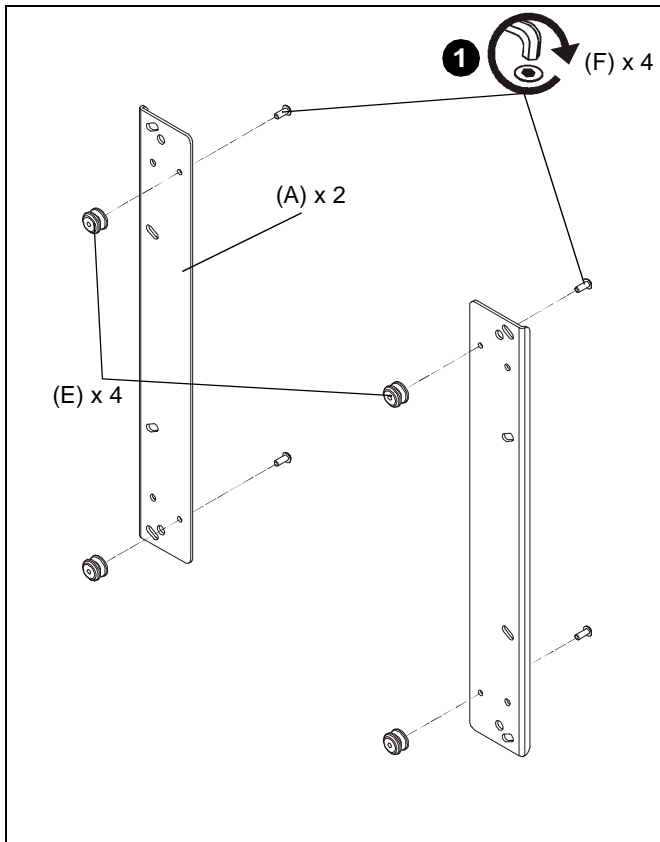

Figure 1
1. Attach mounting buttons (E) to interface bracket (A) using four #10-24 x 1/2" button head cap screws (F) and a 1/8" hex key (J). (See Figure 1)